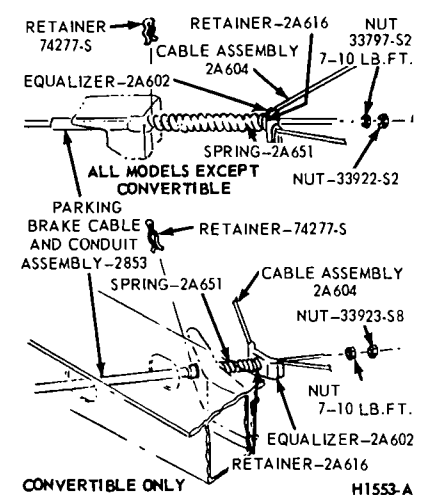

FIG. 5—Parking Brake Linkage Adjustment—Montego, Fairlane and Falcon
3. Raise the vehicle. Loosen the equalizer lock nut (Fig. 5) and turn the nut forward against the cable guide on the equalizer until there is 75-100 pounds tension on the left rear cable or there is 100 ft-lbs break-away torque when turning the rear